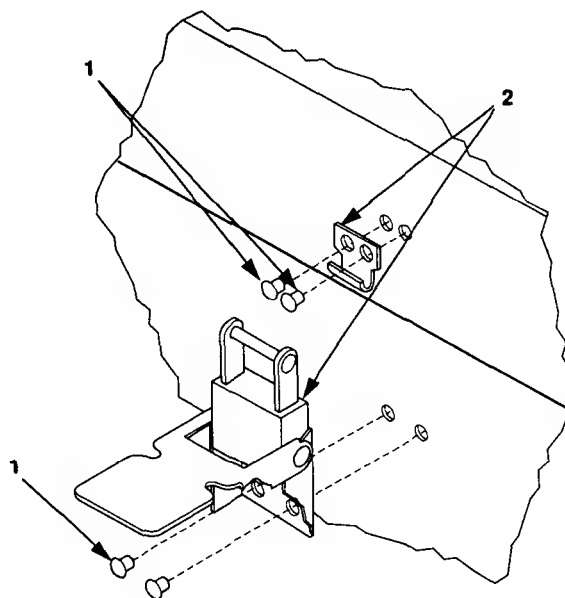

Figure 4-11. Clamping Catch Replacement
1. Drill out rivets (1, figure 4-11) that secure clamping catch (2).
2. Remove defective clamping catch (2).